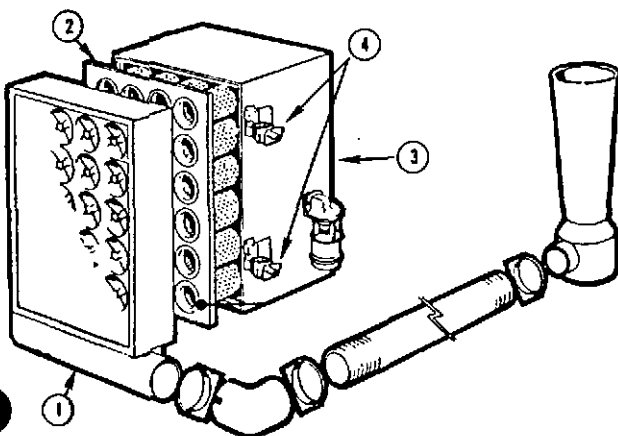

Fig. 5-20, N21017. Cartridge-type air cleaner — two stage
1. Loosen wingnuts (4, Fig. 5-20) on air cleaner housing (3). Loosen "U" bolt clamp securing pre-cleaner to aspirator tubing. Remove pre-cleaner panel (1).
2. To remove dirty Pamic cartridge (2), insert fingers in cartridge opening using a "bowling-ball grip". Loosen all four corners of cartridge, one at a time, by pulling straight out.
2. To install a new cartridge, hold cartridge (2, Fig. 5-20) in same manner as when removing from housing (3). Insert clean cartridge into housing; avoid hitting cartridge tubes against sealing flange on edges of air cleaner housing.
4. Replace pre-cleaner panel (1) and tighten wingnuts (4). Assemble aspirator tube to pre-cleaner panel and tighten "U" bolt.